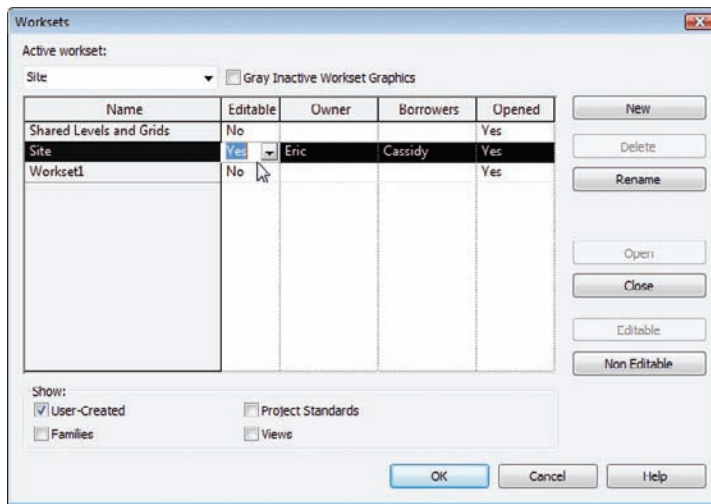

FIGURE 22.16 Occupying the entire workset
2. In the Site workset, select Yes in the Editable field, as shown in Figure 22.16. Although Cassidy is a borrower, you can still take over the workset.